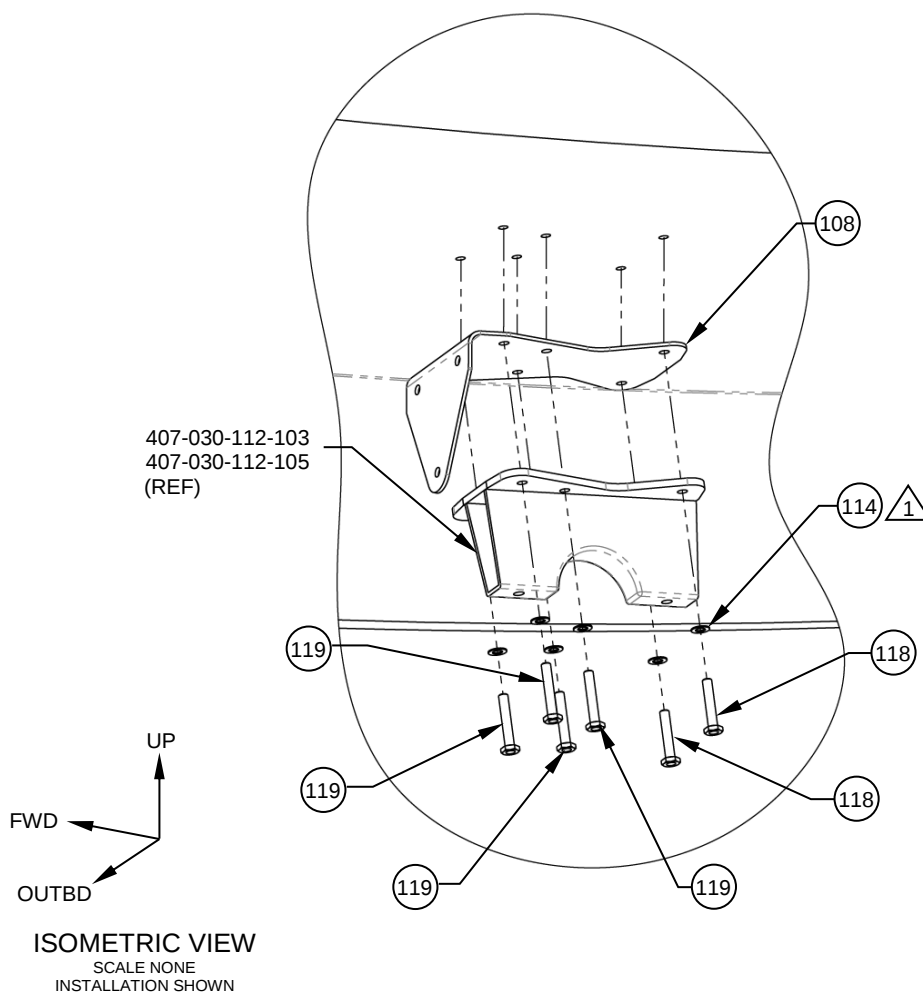

Figure 3
5. Locate 2X AFT Attachment Bracket (Item 108) between the fittings and fuselage as shown in Figure 3. Use the provided 4X Bolt, Machine (Item 118), 8X Bolt, Machine (Item 119), and 12X Washer, Flat (Item 114) from the BELL 407 Utility Basket, Kit, in the order shown in Figure 3 to install the fittings and brackets to the fuselage.